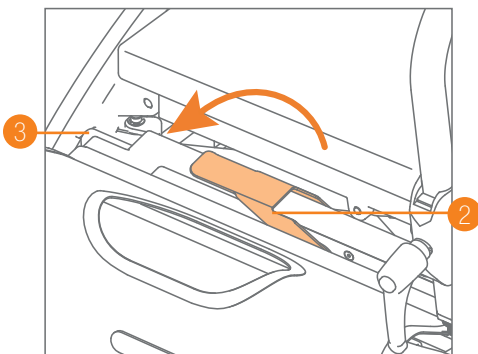

Figure 32: Locking the wheelchair package.
- Push the red handle down gently to lock the wheelchair package. The locking bolts will extend securing the package in place (**Figure 32**). You can now use the Rollz Motion Electric as a rollator, carrying the wheelchair package with you.